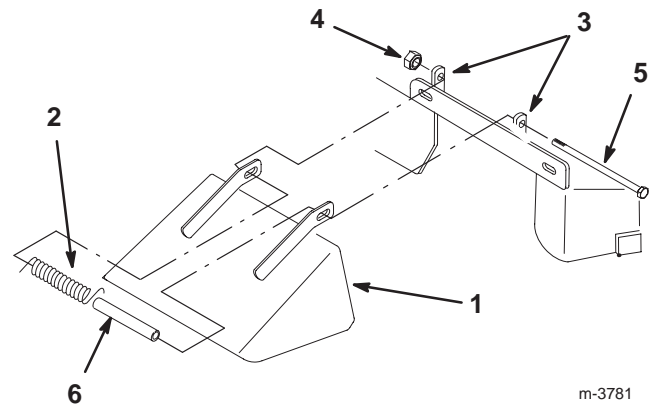

Figure 53
1. Remove the locknut, bolt, spring, and spacer that hold the deflector to the mounts (Fig. 53).
2. Straighten the deflector mounts if they are bent (Fig. 53).
6. Ensure that there is downward spring force on the deflector (Fig. 53).
7. Tighten the bolt and locknut until they lightly contact the pivot brackets (Fig. 53).